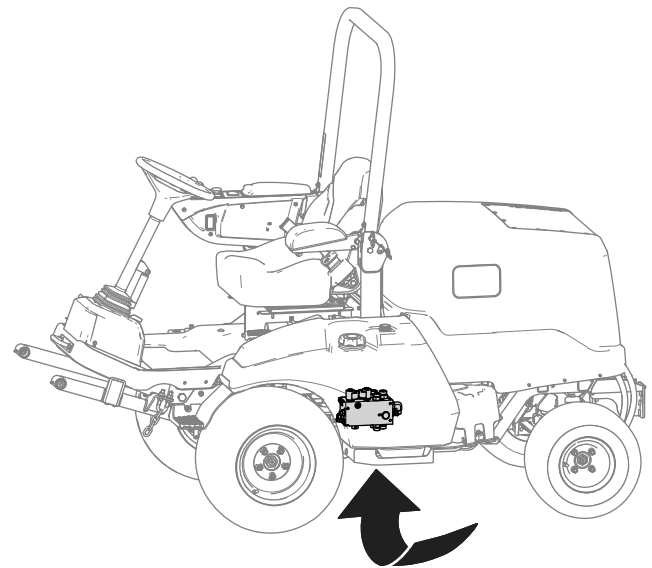

Figure 8
- A. Place a drain pan under the hydraulic manifold (shown in Figure 8).